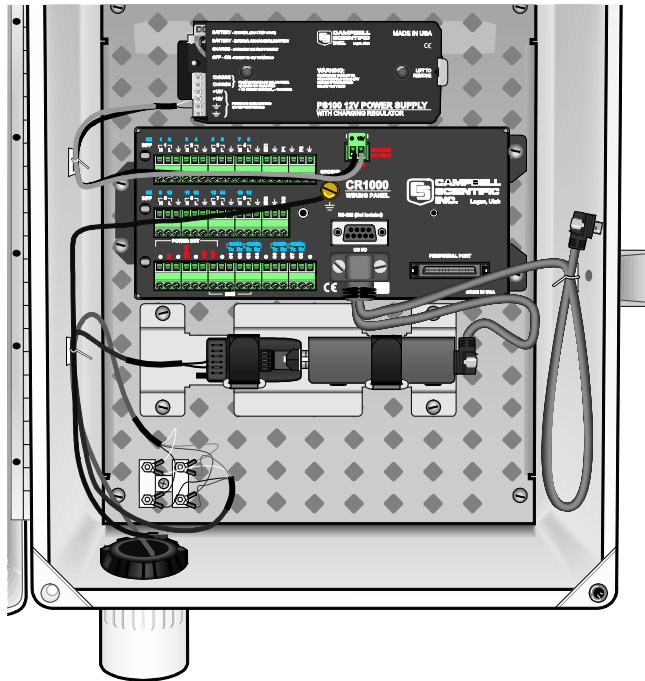

FIGURE 8-9. SRM-5A Rad Modem and SC932A Interface
2. Attach the SRM-5A and SC932A mounting bracket to the enclosure backplate using the two screws and nylon inserts provided (FIGURE 8-9).